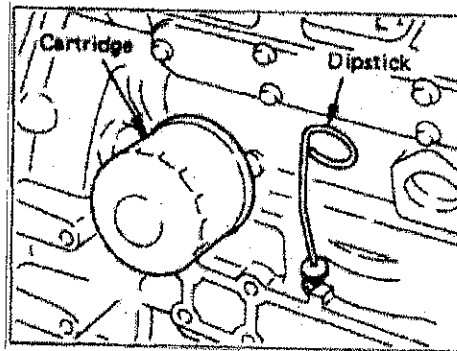

Fig 15 Oil filter removal
- 86 Oil filter element removal. Use a filter wrench to remove the cartridge type oil filter element (Fig 15).